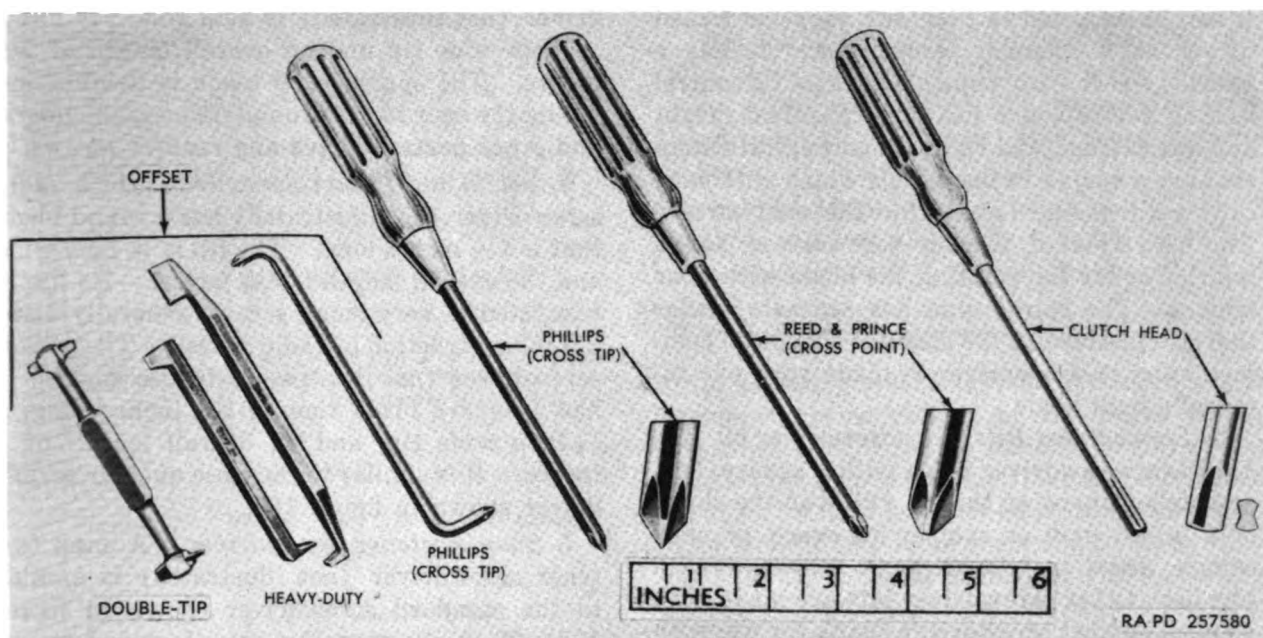

Figure 110. Special tipped screwdrivers.
b. Phillips Screwdrivers (Cross-Tip). The tip of a Phillips screwdriver (fig. 110) is shaped like a cross so that it fits into Phillips-head screws. Phillips-head screws have two slots which cross at the center. These screwdrivers are made with four different sized tips. Size 1 will fit No. 4 and smaller size Phillips screws; size 2 will fit Nos. 5 to 9 inclusive; size 3 will fit Nos. 10 to 16 inclusive; and size 4 will fit No. 18 and larger size Phillips-head screws. Phillips screwdrivers also have different length blades ranging from 1 inch to 8 inches.
c. Reed & Prince Screwdrivers (Cross-Point). Reed & Prince screwdrivers are similar to the Phillips type; however, do not confuse them, for the tip is different, as shown in figure 110. These screwdrivers are issued in 3- to 8-inch sizes.
screwdrivers (fig. 110) are used to drive clutch-bit screws. These screws are commonly called butterfly or figure 8 screws and have recessed heads. The clutch-type screwdriver is issued in 3-, 4-, 5- and 6-inch sizes.
e. Offset Screwdrivers. Offset screwdrivers (fig. 110) are designed to drive or remove screws that cannot be lined up with the axis of common screwdrivers or are located in tight corners. An offset screwdriver is usually made from a piece of steel, round or octagonal in